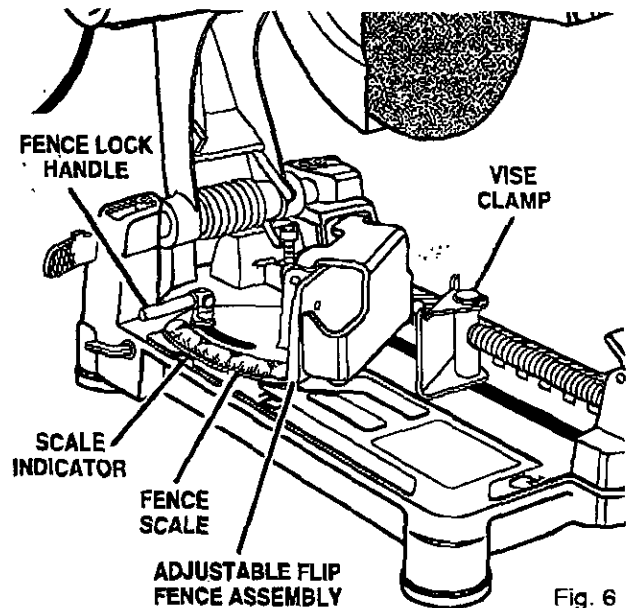

Fig. 6
See Figure 6.
The adjustable flip fence assembly (see figure 6) is used along with the movable vise clamp to provide a clamp for holding your workpiece securely when making cuts. It also makes your cut-off machine more versatile.
- Using the fence lock handle, securely tighten the fence in place at desired angle. See Figure 6.